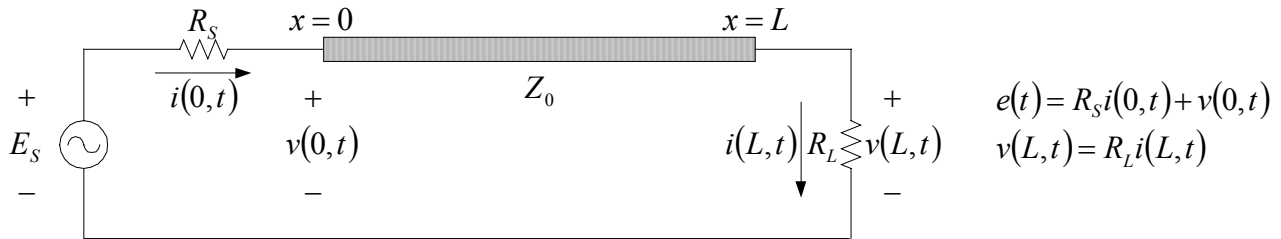

Fig.2 The Boundary Conditions
The constants are obtained by using the boundary conditions (see Fig. 2)
Using the boundary conditions implied by the Figure 2, with $g = 0$ in (2), we get